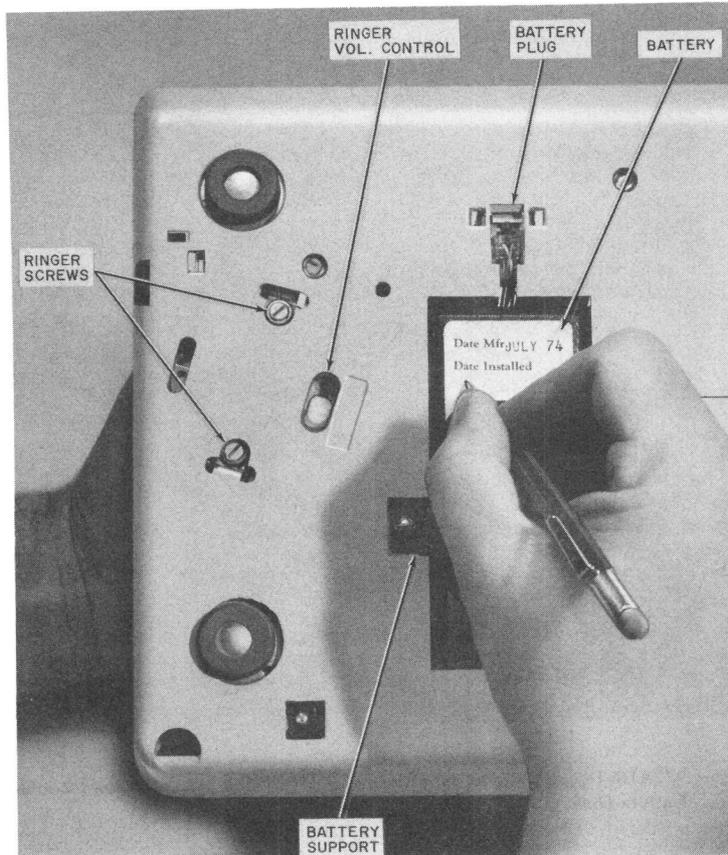

Fig. 7—872A1M Telephone Set, Bottom View
(3) The battery is located under the telephone set (Fig. 7)